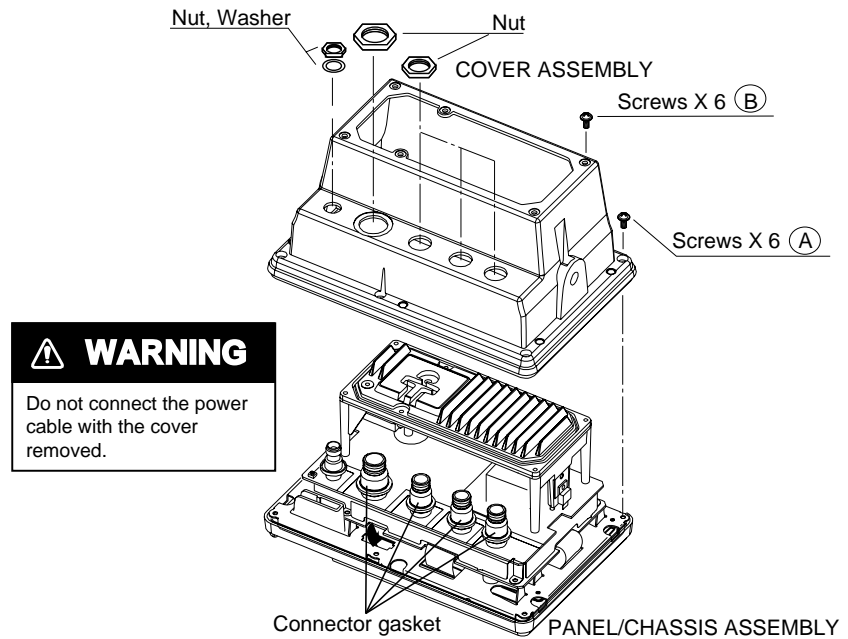

Figure 4-1 Removing cover assembly
- *Connector gasket (See figure 4-1.)*